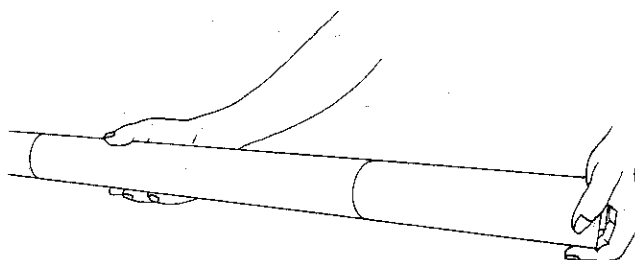

Figure 28
- (13) On the left side, follow the same procedures as described in (10) and (11) to draw out the bobbin.
- (14) After taking out the bobbin, retain it with a rubber band. (Figure 28)